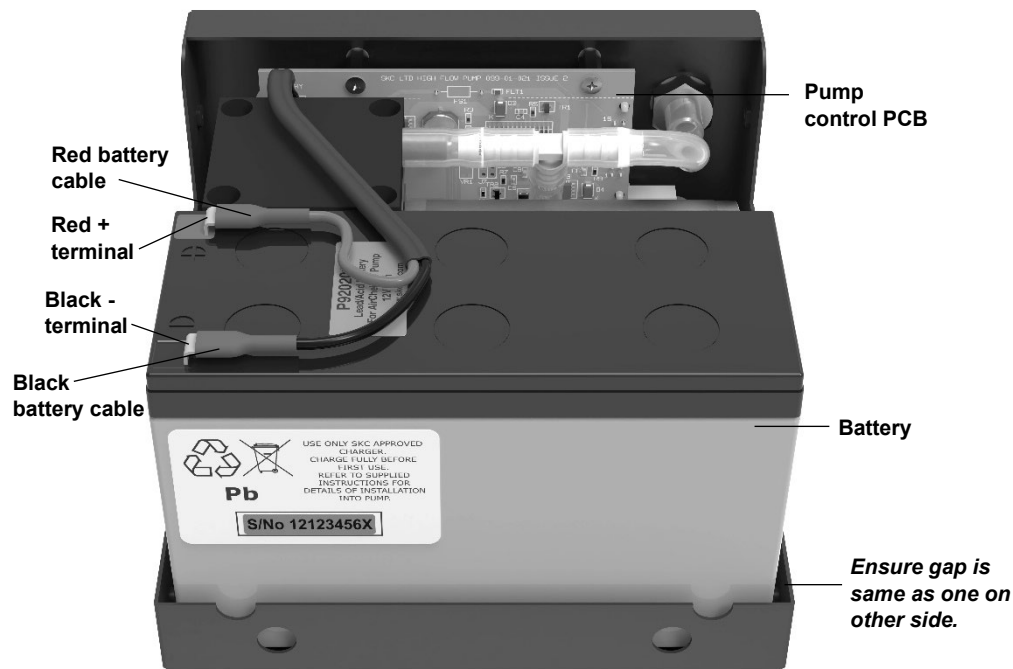

Figure 2. Installing the Battery
2. Remove the two protective covers from the battery terminals and place the battery in the rear compartment of the pump case as shown in Figure 2. Ensure that equal gaps are left between the ends of the battery and sides of the case to allow for the case screws to be screwed in fully without damaging the battery.